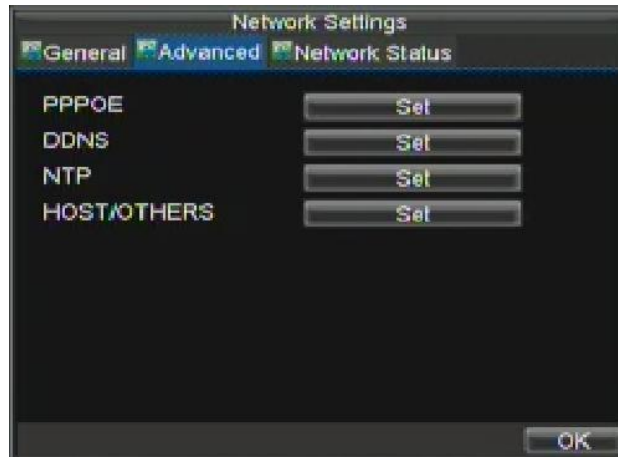

Figure 4. Advanced Network Settings
4. Select the **Advanced** tab. This will take you to the advanced network settings menu, shown in Figure 4.